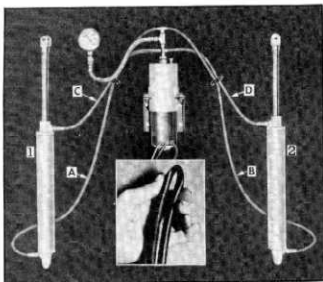

Fig. 63—Fluid Pressure Checking Points
- To check the fluid pressure delivered by the pump, install pressure gauge (fig. 63) in hydraulic lines leading to the bottom of lift cylinders. Pinch or "kink" hydraulic tubing "A" and "B" to completely shut off fluid flow to the bottom of each of the folding top lift cylinders, then push switch knob forward and hold a few seconds. The pressure should read 220 to 260 psi. The fluid pressure to the top of lift cylinders is checked by installing pressure gauge in hydraulic lines leading to top of lift cylinders, pulling switch knob rearward and pinching or "kinking" hydraulic lines "C" and "D". If pressure reads below the prescribed on either check, then the trouble lies within the pump unit which must be repaired or replaced. If however the pump pressure reads within the prescribed maximum range, then fluid must be leaking past the pistons in one or both lift cylinders and the following check should be made.
- With the top in a raised position and pressure gauge installed in lines leading to the bottom of the lift cylinders, test for leakage past the piston in cylinder No. 2 by pinching lines "A" and "C" so as to shut off fluid flow to cylinder No. 1 (fig. 63). Push control switch knob forward and hold a few seconds, if the pressure gauge reads 220 to 260 psi, then cylinder No. 2 is not defective. However, if the pressure reads below the prescribed range, then the fluid is leaking